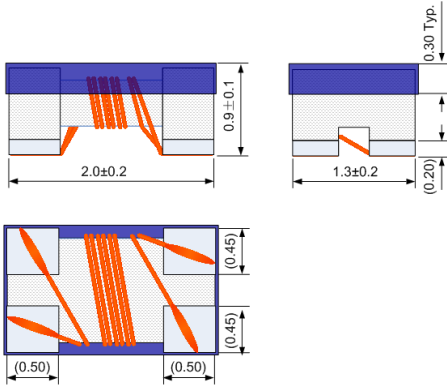

Fig.4-3
①	Coating	Ultraviolet epoxy resin
②	Wire	Polyurethane system enameled copper wire
③	Core	Ni-Zn Ferrite
④	Electrode structure	(Ag-Pd)+Ni+Sn plating
- f) Dimensions: See **Fig. 4-3**.